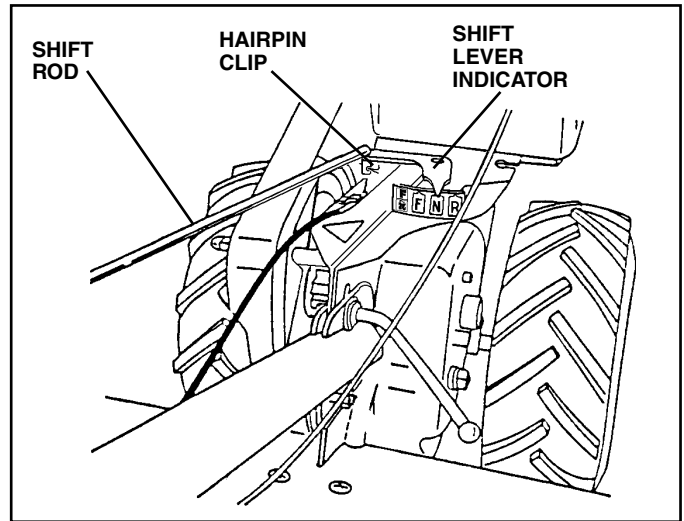

FIG. 7
### CONNECT SHIFT ROD (See Fig. 7)
- Make sure shift lever indicator is in "N" position (See Fig. 7)